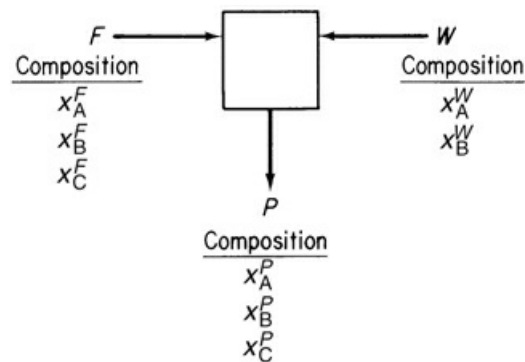

Figure P3.3.12
****3.3.12** You have been asked to check out the process shown in Figure P3.3.12. What will be the minimum number of measurements to make in order to compute the value of each of the stream flow rates and stream concentrations? Explain your answer.